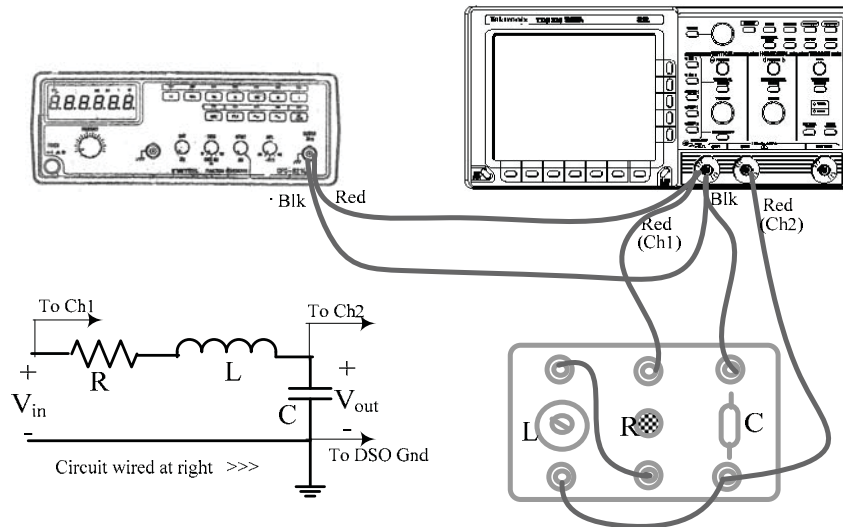

Figure 1.13
- Make the banana-plug patchcord connections shown in Figure 1.13 between the FG, the DSO and the RLC-Chassis using appropriate lengths and colours. The circuit obtained is a **series-RLC** circuit excited by a voltage source, with the voltage across C being the output voltage  $V_{out}$ . [Note that after connecting the FG to the DSO, as in Figure 1.9, all the other connections are made at the DSO terminals alone, since this results in minimum wiring clutter].